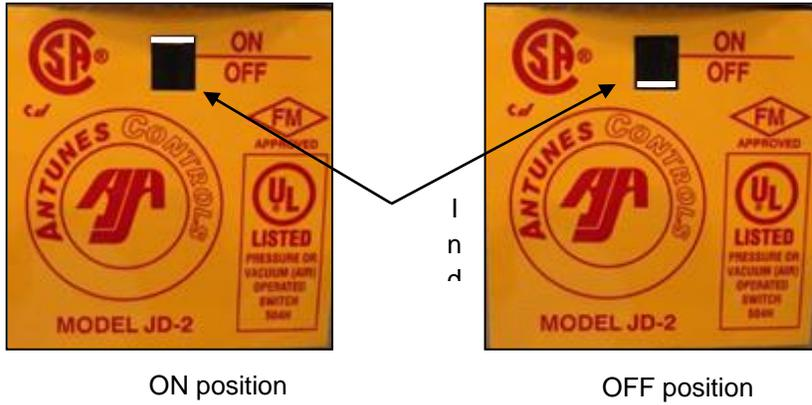

Figure 1. Airflow Switch Indicator.
4. Verify that the white line in the indicator window of the airflow switch is OFF (Figure 1).
6. Verify that the white line in the indicator window of the airflow switch is ON and steady (Figure 1).